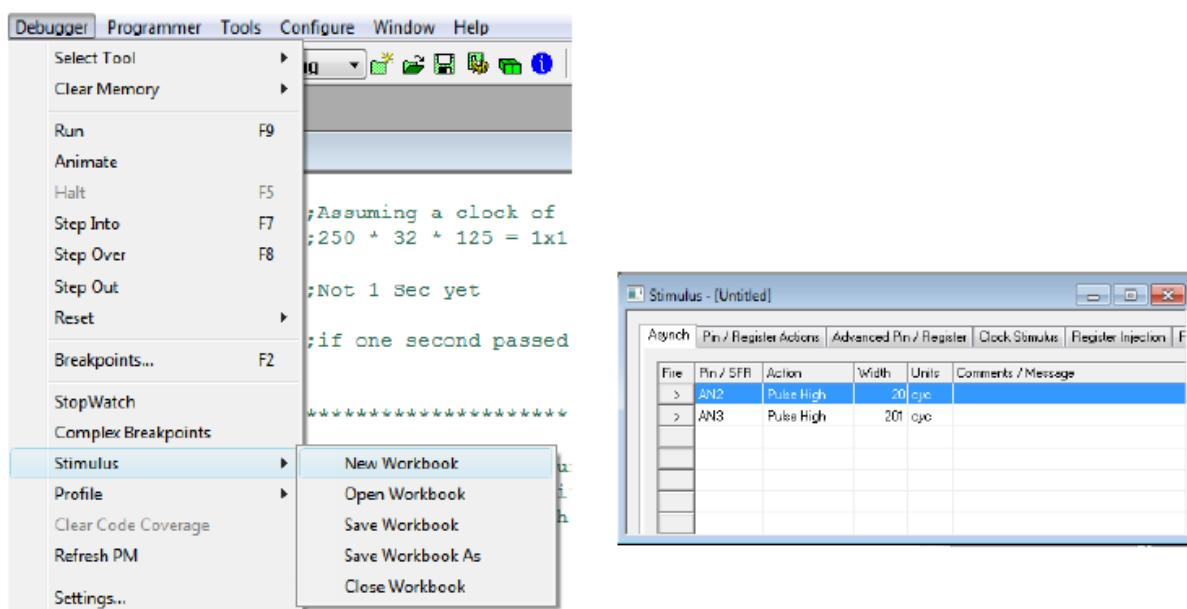

Figure 8. Stimulus window.
In order to simulate external inputs to the PIC pins, we are to use what is called a **Stimulus**. The Stimulus option is available in the Debugger menu as shown in Figure 8. When you select New Workbook, a new window will appear where you can add the pins to stimulate and specify type action to happen on this pin when stimulated.
1. Select Debugger → Stimulus → New Workbook as shown in Figure 8. A stimulus window opens
2. Click on a cell under **Pin/SFR** and select the pin that you want to stimulate. Add AN2 and AN3 which correspond to RA2 and RA3, respectively. For both pins, specify the action to be Pulse High under the **Action** column, under the **Width** column specify the width of the pulse to be 20, and under the **Unit** write 20 (Check Figure 8). This implies that this pin will receive a positive pulse with duration of 20 processor cycles when activated.